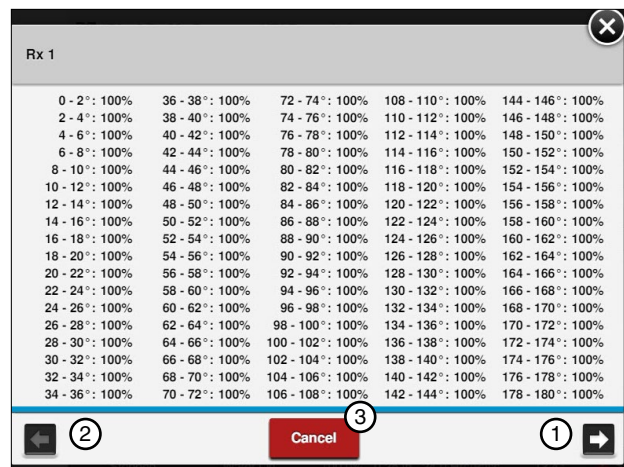

Figure 160-2 1. Next
3. Push the **Review Rx** button to display the Review Rx Screen. Refer to Figure 160-2.